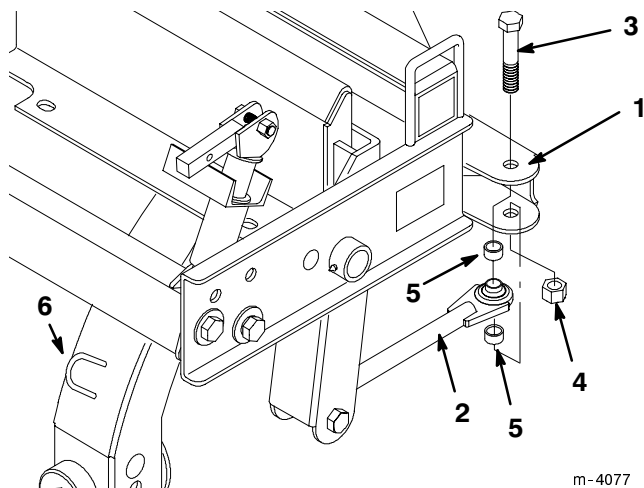

Figure 4
7. Connect the swing arm to the swing bracket on the pivot frame with two spacers, a 3/4 in. (1.9 cm) x 4 in. (10 cm) bolt, and a 3/4 in. (1.9 cm) nut (Fig. 4). Torque to 265 ft·lbs (359 Nm).
8. Route the hydraulic hoses through the ring on the back of the pivot frame (Fig. 4)